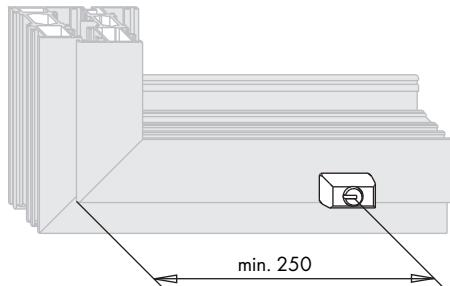

Figure 1
Preparation Pre drill the holes in the sash for the Turning Lock LM (1) (Figures 1 and 2).
Sash Position the Turning Lock LM (1) in the corresponding holes Ø 12,5 (Figure 1) and secure with the set screws (2) (Torque 2,5 ± 0,25 Nm).